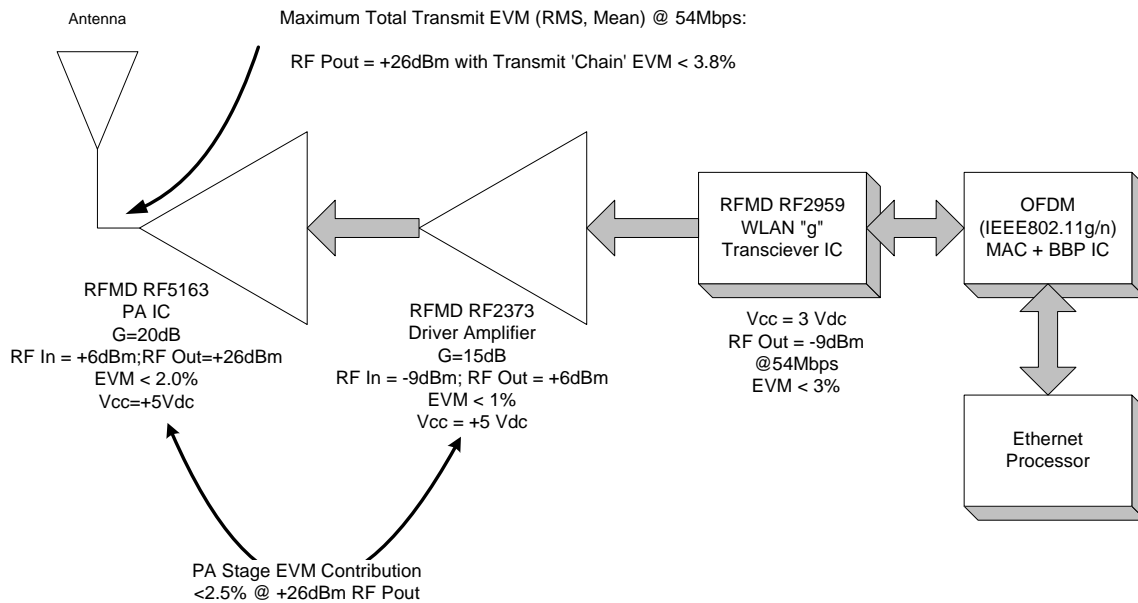

Figure 1. IEEE802.11g/n AP Transmitter Major Component Line-Up
Figure 1 below shows the major component line-up for an ultra linear fixed application (e.g., an access point (AP)) transmitter capable of producing $+26\text{dBm}$ RF P_{OUT} with an amplifier stage (driver + final stage power amplifier IC, RF2373 + RF5163) EVM contribution of $< 2.5\%$ EVM, RMS (mean).